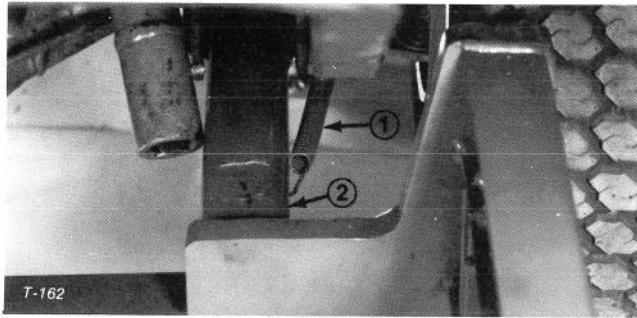

Figure 26
1. Disengage spring from slotted hole on lift arm (Fig. 26). Since spring is tensioned, retract it carefully.
2. Remove end of spring from clevis pin retaining brake strut and brake cable yoke together (Fig. 26).